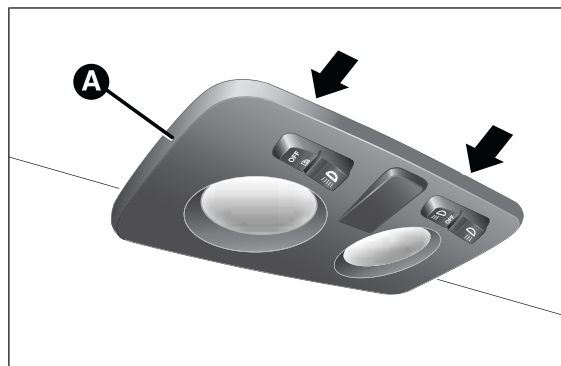
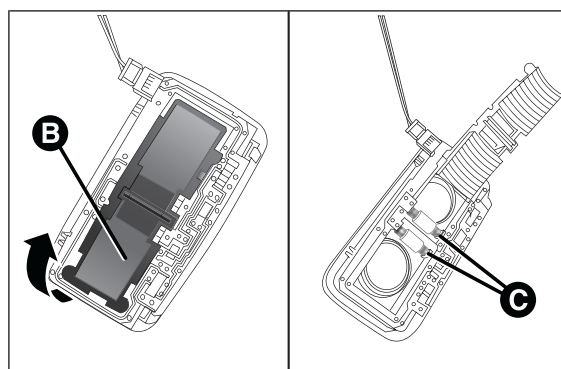

fig. 127
fig. 128
- remove the roof light A fig. 127 working at the points indicated by the arrows;
- ☐ open the flap B fig. 128 and replace the bulbs C releasing them from the side contacts. Make sure that the new bulbs are correctly secured between the contacts;
- ☐ reclose the flap B fig. 128 and fix the roof light A fig. 127 in its housing making sure that it is locked.